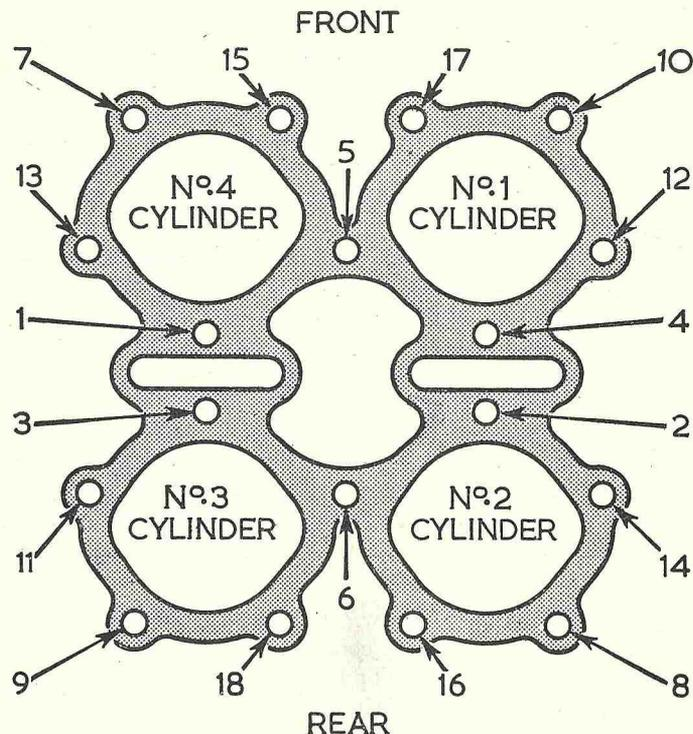

FIG. 10.—SEQUENCE OF TIGHTENING FOR 1000-C.C. MK. II CYLINDER-HEAD.
pointed end of an old screwdriver or scribing tool. If the gudgeon-pins are at all tight for any reason, they can be lightly driven out by supporting one side of the piston and using as a drift punch an old pin or bar of slightly smaller diameter. If the original pistons are to be refitted, mark them in correct order (see Fig. 10).
The order of tightening the nuts and sleeves is most important to ensure a perfect joint between the cylinder-head and block. Tighten in the order correct from 1 to 18 (see Fig. 10). Complete the assembly of the induction manifold pipe, taking care to fit a new oiled-paper joint washer at the port of entry.
*Note the order of firing is Nos. 1 2, 3 and 4 (see Fig. 10).*